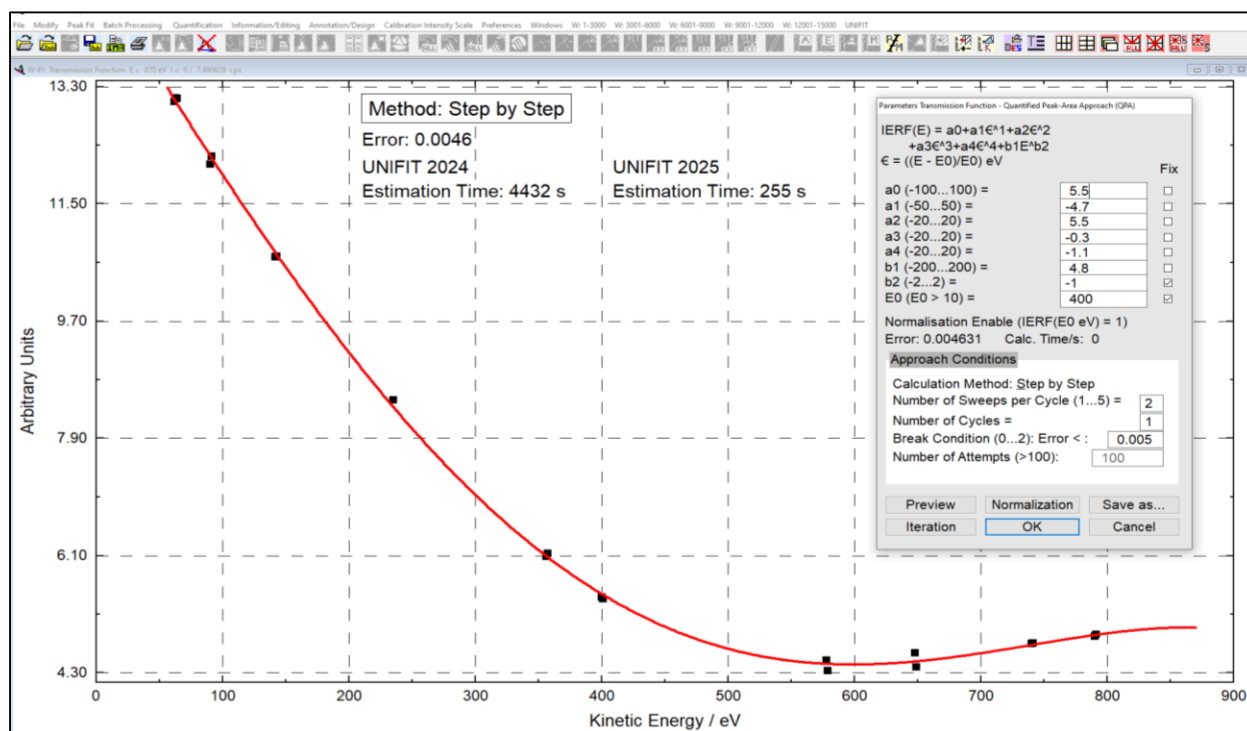

Fig. 3 Screen shots: left: presentation of the result of the 'Step by Step' method using UNIFIT 2024 and UNIFIT 2025
- e) The implemented iteration method 'Step by Step' of the QPA method was optimized. The calculation time was strongly reduced (see Fig 3). The reworked 'Step by Step' method is about 20 times faster with respect to UNIFIT 2024.